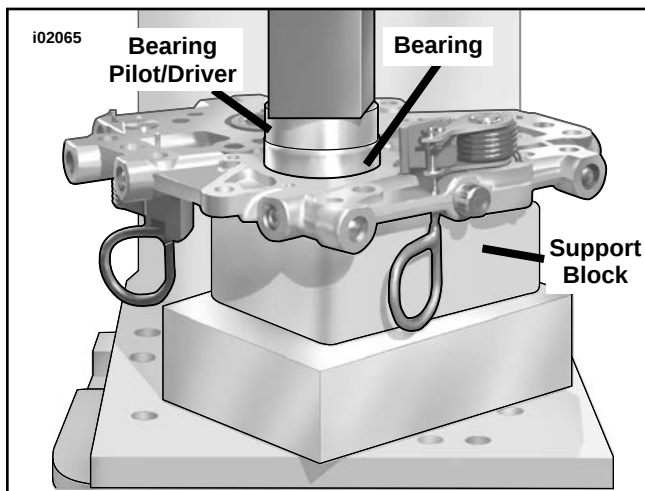

Figure 5. Press Bearings into Cam Support Plate
- d. See Figure 5. Center bearing driver under ram of arbor press. Press on driver until bearing makes firm contact with counterbore in cam support plate. Repeat Steps a through c to install second bearing.